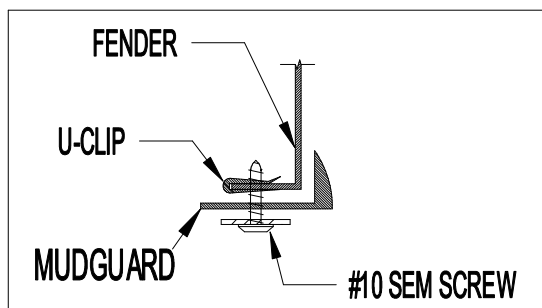

Figure 2
2. Attach mud guard with a #10 SEM screw through mud guard and into the U-Clip, check fit and alignment before tightening (Figure 2).